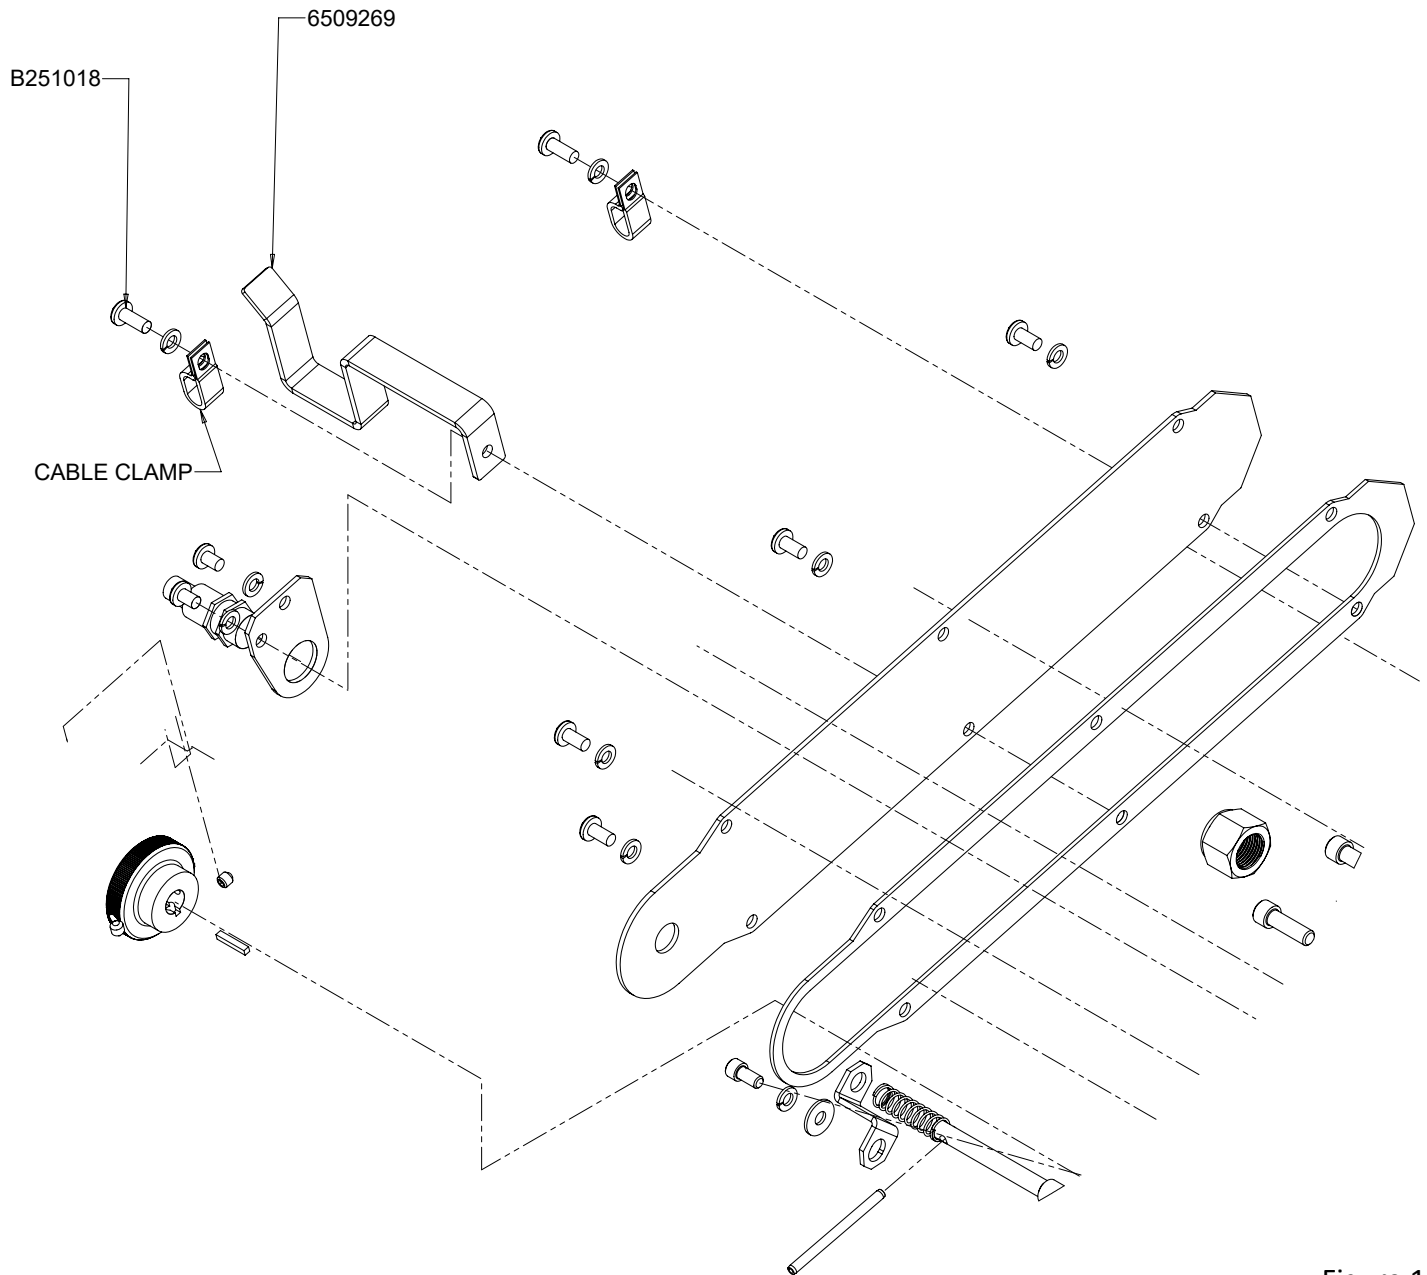

Figure 1
1. Install the Vacuum hose bracket (6509269) on the belt cover for the grinding head housing. Use the second mounting bolt back from the grinding wheel as shown in Figure 1.